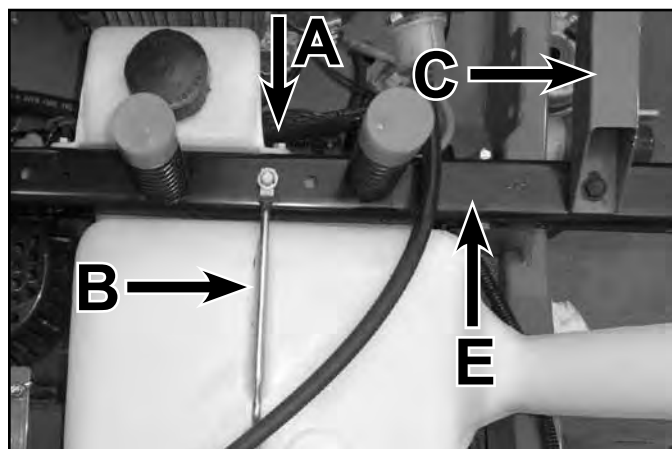

Fig. 012
6. Remove the (2) bolts and nuts that secure the seat support (E) to the frame brackets.
7. Note the location of and remove any cable ties / loom clamps that secure wiring / cables to the seat support bar (E).
10. The fuel tank is now loose and can be removed by from the unit frame (Fig. 012).